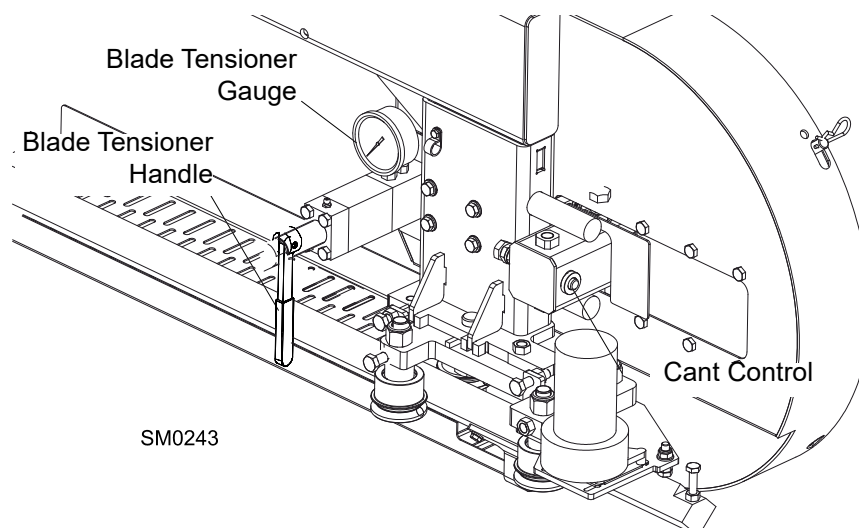

FIG. 2-17
See Figure 2-17. Tension the blade by turning the hydraulic tensioning handle clockwise until the tension gauge indicates the recommended tension.
5. Use the cant adjustment bolt, shown in **Figure 2-17**, to adjust where the blade travels on the blade wheels.